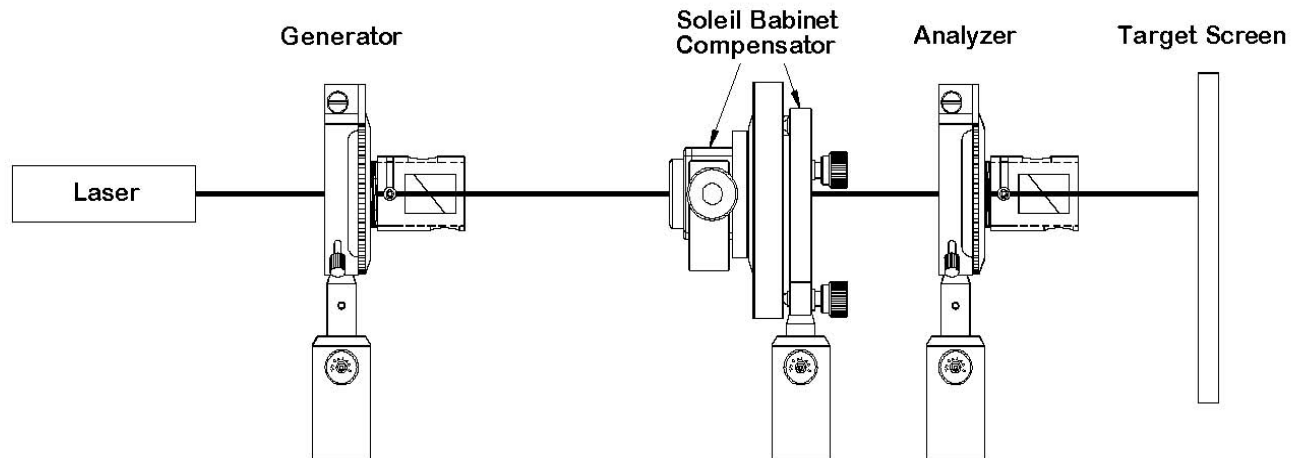

Figure 2 Setup for Calibration Procedure
1. Set up the crossed polarizer configuration as shown in Figure 2.